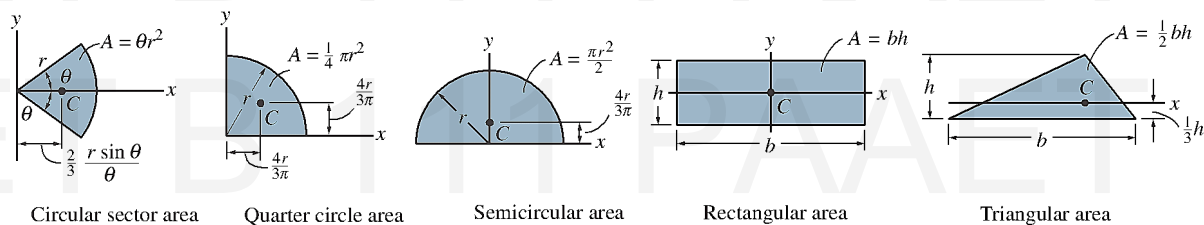

Figure 7-1: Centroidal Locations For Common Geometric Shapes
- The locations of centroids are usually tabulated in engineering references. (Figure 7-1)